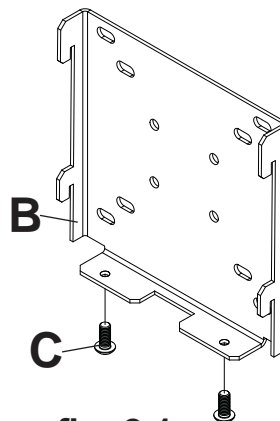

fig. 2.1
- 2 Thread M5 phillips screws (C) to hook bracket (B) making the screws flush with bracket as shown in figures 2.1 and 2.2.